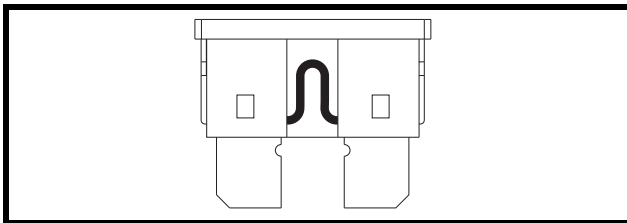

Figure 31. Working Fuse
2. Examine the fuse to be sure it is blown. **See figures 31 and 32.**